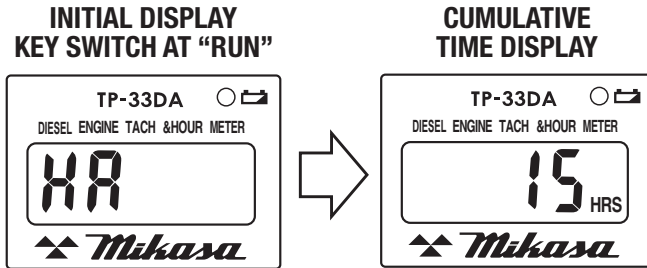

Figure 61. Tachometer/Hour Meter (Cumulative Time)
- After “HA” is initially displayed on the tachometer/hour meter, the meter will change to display **cumulative time** (Figure 61).